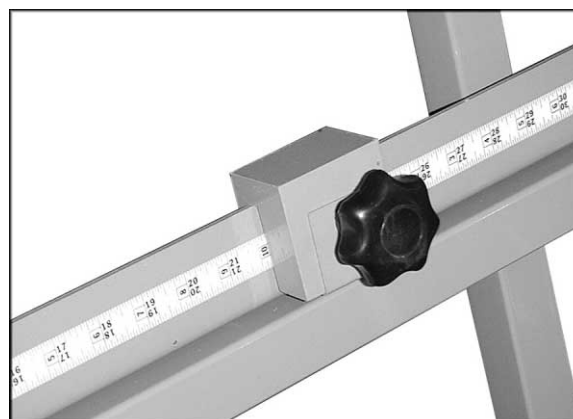

Figure 10
3. Move the adjustable stop, shown in Figure 10, to the measurement on the horizontal scale (either left or right side of carriage) that matches the desired width of your cut.